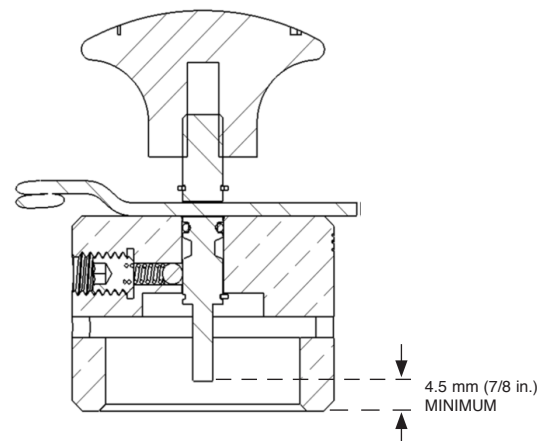

FIGURE 6-28
1. Check that the actuation pin is in the non-fired position. See Figure 6-28.